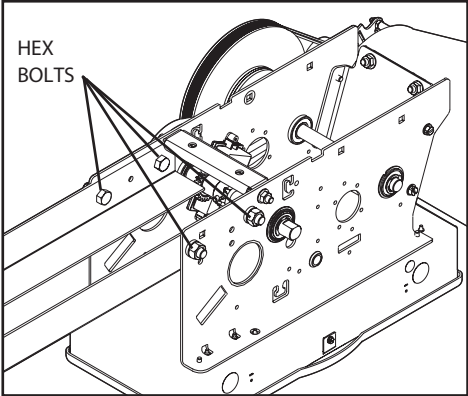

Figure 2
- 1) Attach Track to Power Unit using four (4) 7/16"-14 x 1" hex bolts, 7/16"-14 hex nuts and 7/16" lock washers (provided). **Fig. 2.**